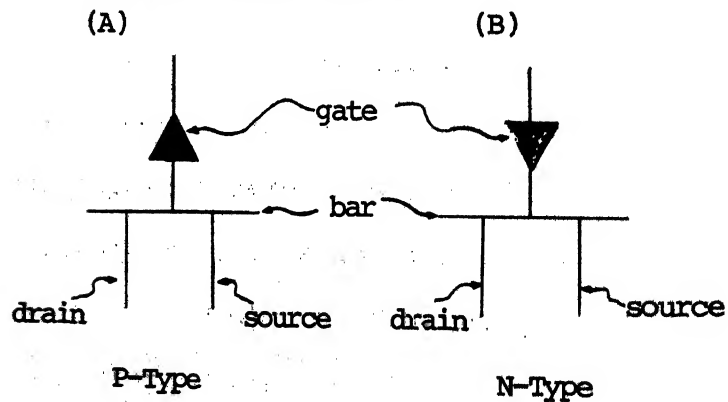

FIGURE 2
2. Label correctly the three (3) elements of a field-effect transistor.
3. The schematic symbols of the field effect transistor are shown in Figure 2. Figure 2 (A) shows a P-type body and (B) shows an N-type body region.